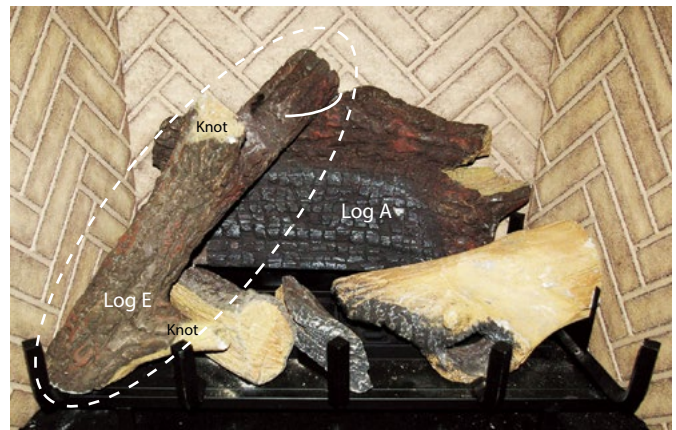

Figure 18k. Installation of Log 'E'.
Step 9. Position Front Right Log 'F', with the Knots pointing in the directions shown, **Figure, 18l.** Place the **Lighter, narrow end** on top of Log 'E' as shown, (**arced line**). Align for length and location, **Figure 18k.**